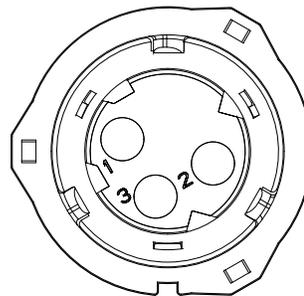

Figure 8
10. Disconnect the left front ABS modulation wiring connector and verify the connector is properly pinned. If the connector is properly pinned, no repair is required. If the connector is not properly pinned, adjust the pinning as required (see *Figure 8*).